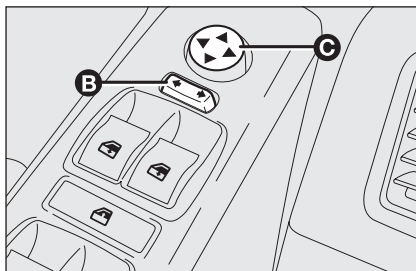

fig. 55
- use switch **B**-fig. 55 to select the mirror required (left or right);